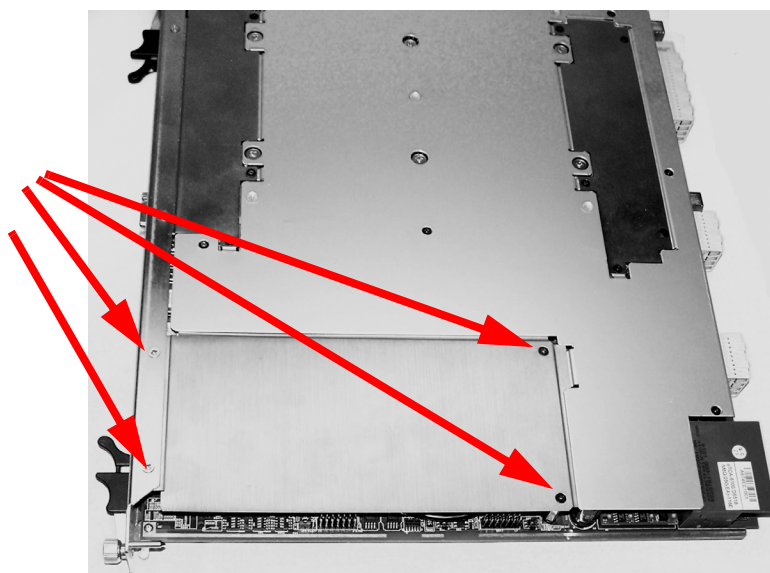

Figure 33 Remove the covers as indicated. Use a #1 Phillips screwdriver.
- 3 Remove the SSD cover from the M9536A as shown in Figure 33